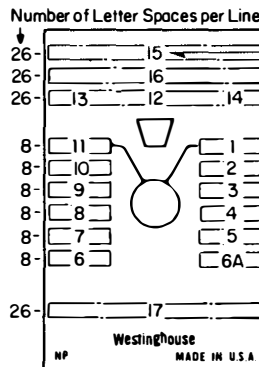

Figure 2
- NP 502A054H03 (Removable Key) Fig. 2
- NP 502A054H02 (Fixed Handle with Target) Fig. 2
Example: Select Figure 2—Order NP502A054H02 Stamp 11 = Trip, 1 = Close, 15 = Circuit Breaker, 16 = Control.